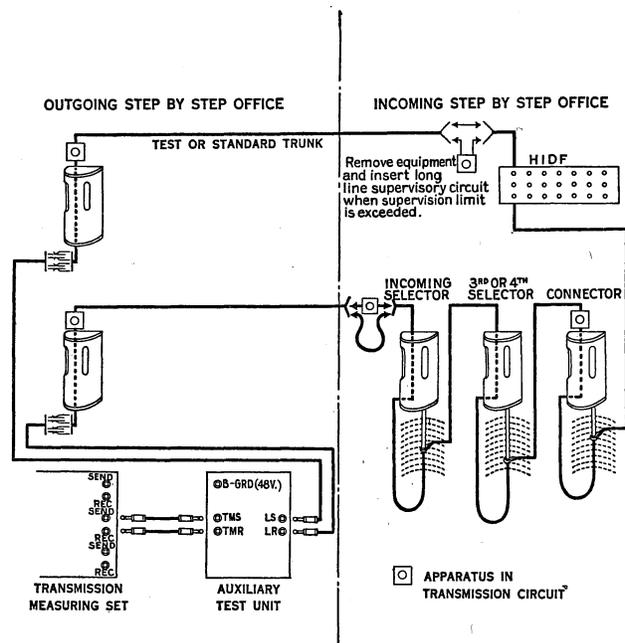

Figure 2
- 2.21 Figure 2 shows schematically the connections for the test.